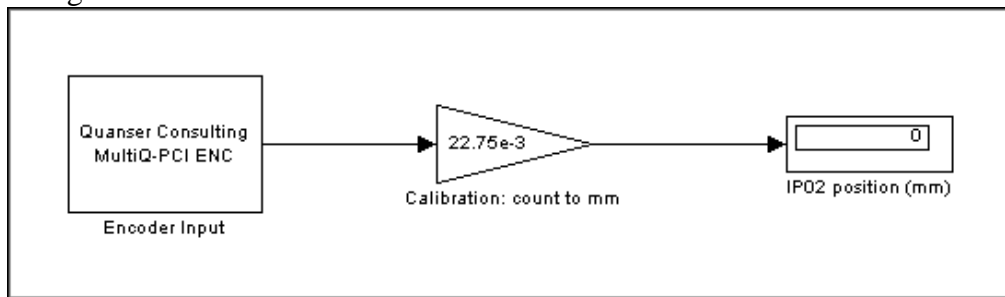

Figure 16 Measuring from the IP02 Cart Encoder
Step 1. Start a fresh Simulink diagram and create a model that looks like the one shown in Figure 16.